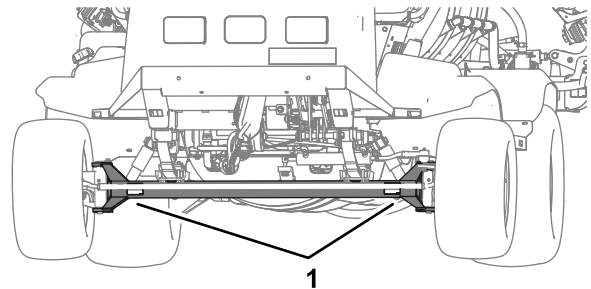
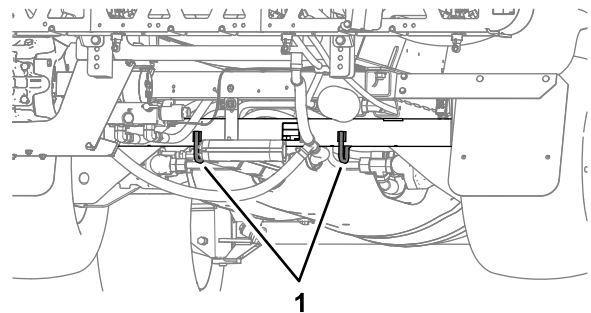

Figure 58
Figure 59
- Bind the machine securely to the transport vehicle; Figure 58 and Figure 59 illustrate the tie-down points of the machine.